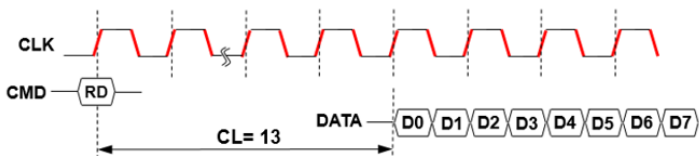

Figure 1-6: CL is the time (number of clocks) from an issued read command to first data out.
- ✓ **CAS latency:** It’s the DRAM response time from the column address command (READ) to 1st data out on the memory bus. CAS latency is usually counted in CL even when it’s a fixed asynchronous timing, so for example, a CL13 (pronounced “CAS latency of 13”) means the response of the DRAM is 13 CL at a certain speed. In Figure 1-6, you see how this works out by issuing a read command (RD) to the DRAM with a CL13.